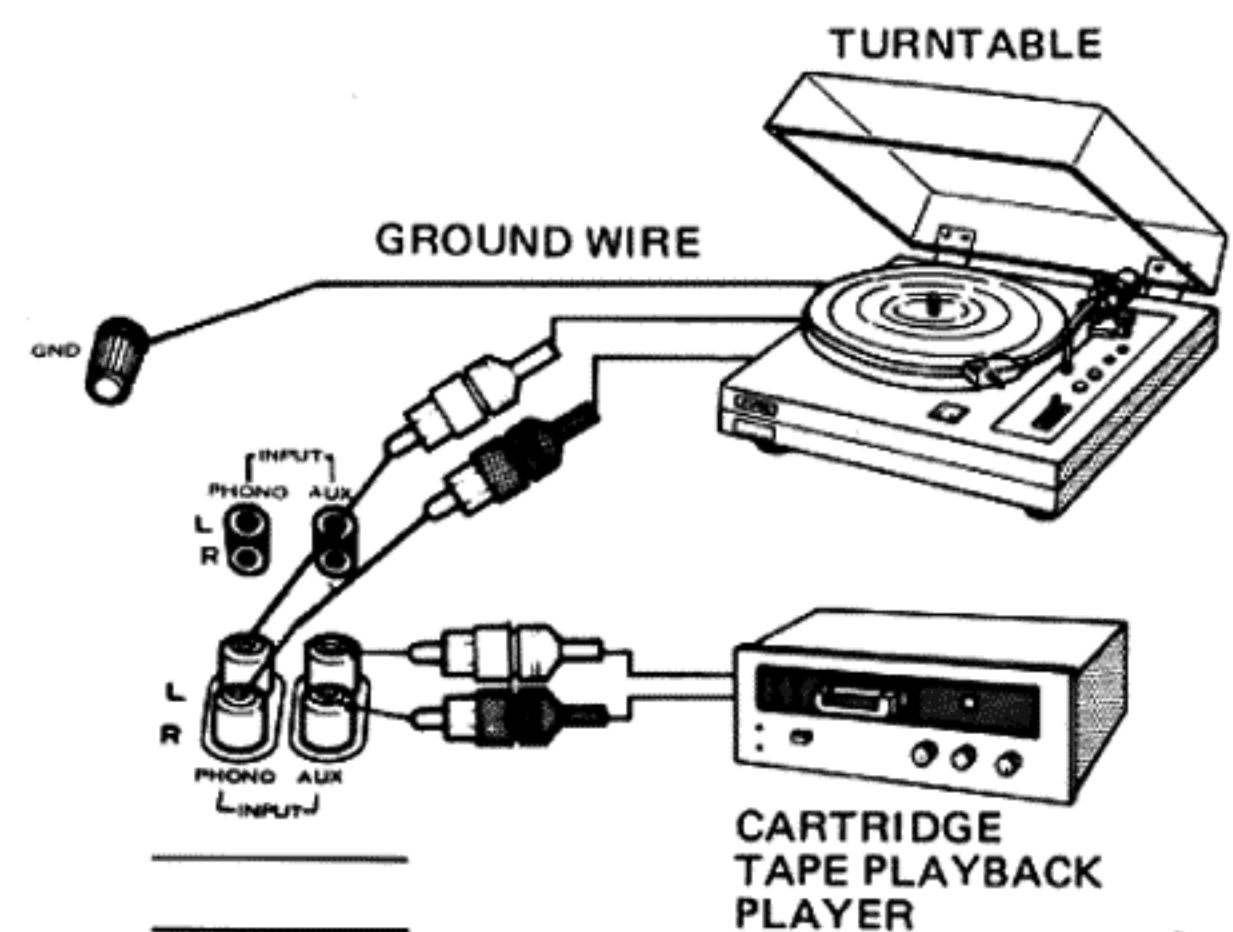

Fig. 3
Connect a turntable equipped with a moving magnet (MM) type cartridge to the PHONO jacks, taking care to observe L and R channels. The ground lead of the turntable should be connected to the GND terminal (Fig. 3).
## USE OF THE AUX JACKS (Fig. 3)